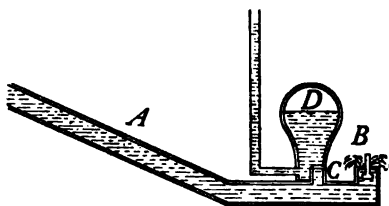

FIG. 47.—Cross-section of a hydraulic ram.
**66. Hydraulic Ram.**—The hydraulic ram (see Fig. 47) is an automatic device that is much used for raising water from springs to houses located on higher ground. Water flows through the pipe *A* through the opening at *B*. The pressure closes the valve at *B*. The increased pressure